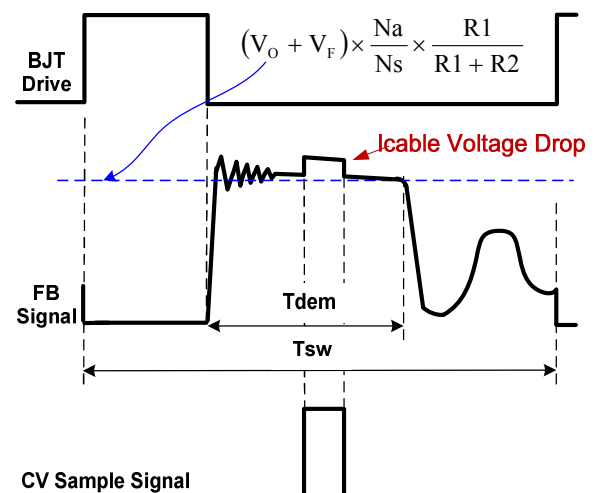

Fig.2
In primary side control, the output voltage is sensed on the auxiliary winding during the transfer of transformer energy to the secondary. Fig.2 illustrates the CV sampling signal timing waveform in DP2525JD. As shown in Fig.2, it is clear that there is a down slope representing a decreasing total rectifier  $V_f$  and its voltage drop as the secondary current decreases to zero. To achieve an accurate representation of the secondary output voltage on the auxiliary winding, the CV sampling signal blocks the leakage inductance reset and ringing. When the CV sampling process is over, the internal sample/hold (S&H) circuit captures the error signal and amplifies it through the internal Error Amplifier (EA). The output of EA is sent to the Primary Side Constant Voltage Modulator (PSR-CVM) for CV control. The internal reference voltage for EA is trimmed to 2V with high accuracy.
During the CV sampling process, an internal variable current source is flowing to FB pin for Cable Drop Compensation (CDC). Thus, there is a step at FB pin in the transformer demagnetization process, as shown in Fig.2. Fig.2 also illustrates the equation for "demagnetization plateau", where  $V_o$  and  $V_f$  is the output voltage and diode forward voltage;  $R_1$  and  $R_2$  is the resistor divider connected from the auxiliary winding to FB Pin,  $N_s$  and  $N_a$  are